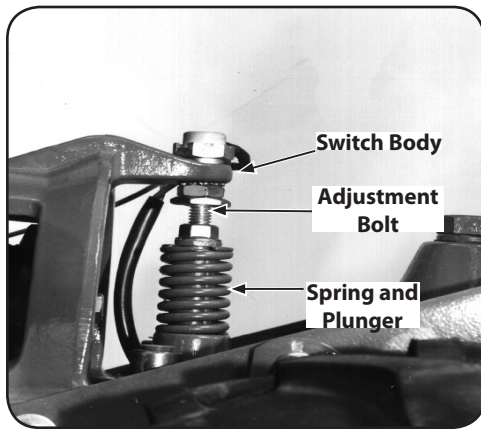

Figure 5-19
When the Wheels/Tines/PTO Drive Lever is moved up into REVERSE, the engine and engine mount move down to press on the reverse adjustment bolt. See Figure 5-19.
The spring and plunger assembly is designed to prevent the reverse disc from making contact with the transmission pulley until you shift into REVERSE. When the lever is in NEUTRAL, the switch body on the bottom of the engine mount tab should be resting squarely on top of the reverse adjustment bolt. See Figure 5-19. The reverse adjustment bolt can be adjusted up or down to correct a number of reverse drive operating problems, as explained next.
6. Move the Wheels/Tines/PTO Drive Lever to NEUTRAL. The switch body on the bottom of the engine mount tab should be resting squarely on top of the reverse adjustment bolt, and the reverse disc should be at least  $\frac{3}{16}$ " away from the transmission drive pulley. See Figure 5-19. If the reverse disc is any closer than this, raise the reverse adjustment bolt (turn it counterclockwise).